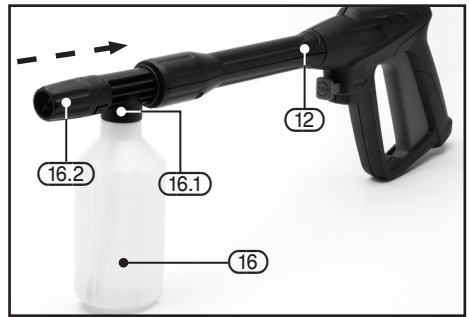

FIG.13
9.1 DETERGENT BOTTLE – FIG.13
- Remove the bottle spray nozzle (16.1) from the detergent bottle (16) and fill the bottle with a suitable detergent, according to the manufacturer's recommended instructions.
- Re-fit the bottle spray nozzle back onto the bottle, then connect the bayonet fitting of the bottle spray nozzle onto the trigger assembly section (12), using the same method as attaching the lance – by pushing in the bayonet fitting and turning anti-clockwise 45° to lock in place.